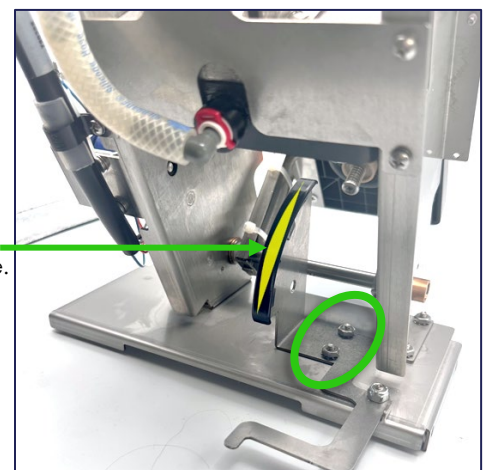

Fig. 4
- Apply lubricant to cam slope in highlighted area (**Fig 4**).